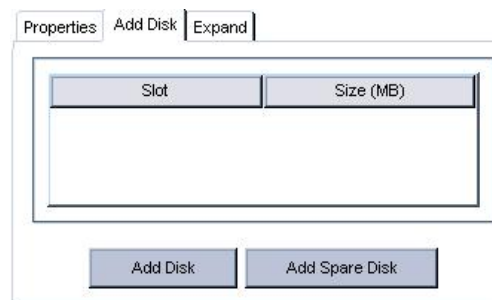

Figure 9-10: The “Add Spare Drive” Button
Step 1. Select the logical drive to which you wish to add a dedicated spare from the list of the logical drives above. In the Functions window, click the **Add Disk** tab. The functional window is accessed from the Existing Logical Drives window as shown in **Figure 9-10**, the Add Spare button appears next to the Add Disk button.